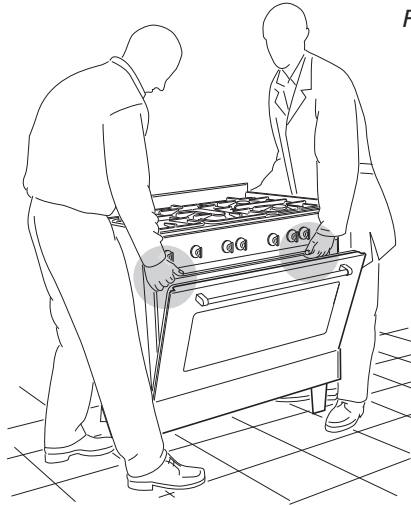

Fig. 1.6
**WARNING:** When raising cooker to upright position always ensure two people carry out this manoeuvre to prevent damage to the adjustable feet (fig. 1.6).
When moving cooker to its final position **DO NOT DRAG** (fig. 1.8). Lift feet clear of floor (fig. 1.6).